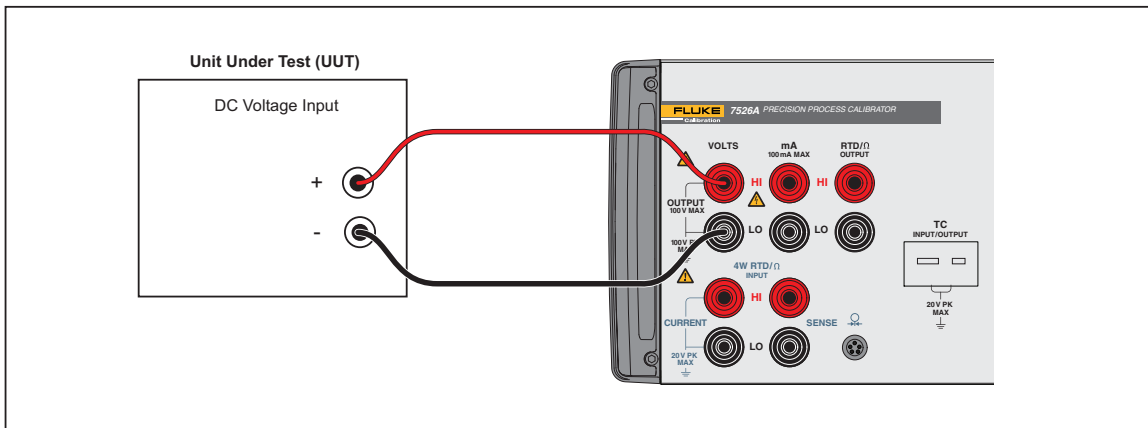

Figure 2-1. DC Voltage Output Connections
4. Connect the UUT to the voltage output terminals of the Product as shown in Figure 2-1.